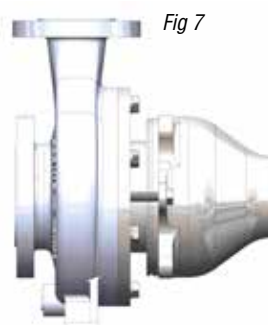
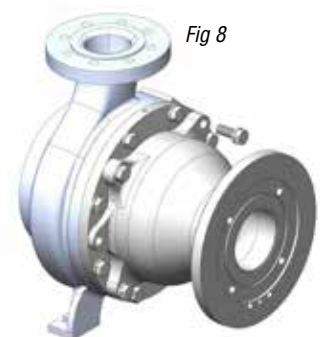

Fig 7
Fig 8
- Carefully slide the wet end towards the motor adapter until it touches the jackscrews (item 14) there will be some magnetic attraction. Make sure the (2) jackscrews are fully extended. See figure 7.
- Slowly and evenly turn the jackscrews counterclockwise to allow the wet end to slowly slide into the motor adapter. When the jackscrews are fully retracted, lift the wet end slightly and slide it onto the motor adapter's locating flange. If necessary the M16 motor adapter bolts may be used to draw the pump end onto the motor adapter. Be careful not to cut or damage the vapor protection o-ring (item 24).
- Bolt the wet end to the motor adapter by reinstalling the (4) M16 hex head cap screws & lock washers (items 15 & 15A) and torque evenly to 90 ft-lbs (122 N-m). See figure 8.